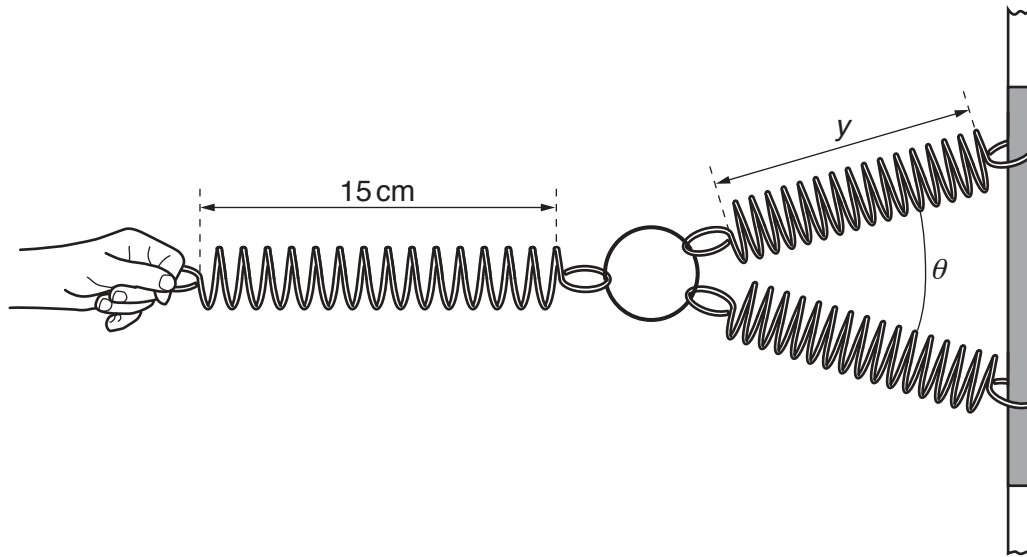

Fig. 2.3 (not to scale)
- (c) (i) Pull spring A until the length of its coiled section is 15 cm as shown in Fig. 2.3.